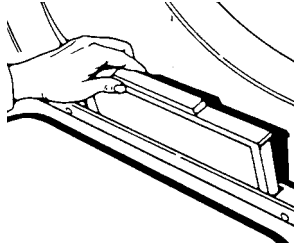

Fig. 20
1. Open dryer door and remove lint screen. (Fig. 20) Close the dryer door.